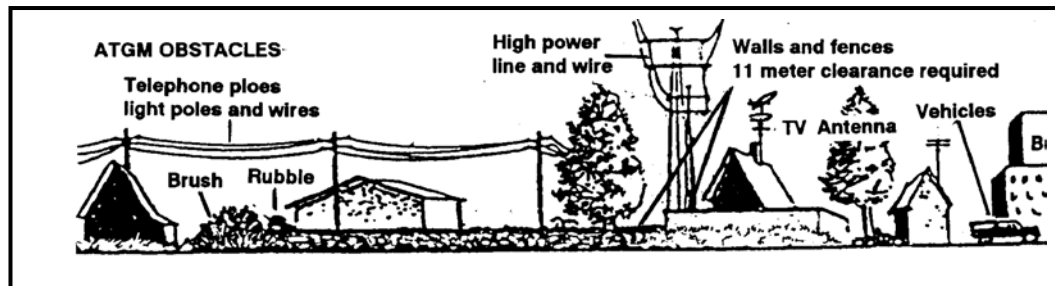

Figure 7-7. Common obstacles to ATGM flights.
(1) **Obstacles.** When fired from street level, rubble or other obstacles could interfere with missile flight. At least 3.5 feet (1 meter) of vertical clearance over such obstacles must be maintained. Figure 7-7 shows the most common obstacles to ATGM flights in urban areas. Power lines are a special obstacle that presents a unique threat to ATGM gunners. If the power in the lines has not been interrupted, the ATGM guidance wires could create a short circuit. This would allow extremely high voltage to pass to the gunner in the brief period before the guidance wires melted. This voltage could either damage the sight and guidance system, or injure the gunner. Before any ATGM is fired over a power line, an attempt must be made to determine whether or not the power has been interrupted.